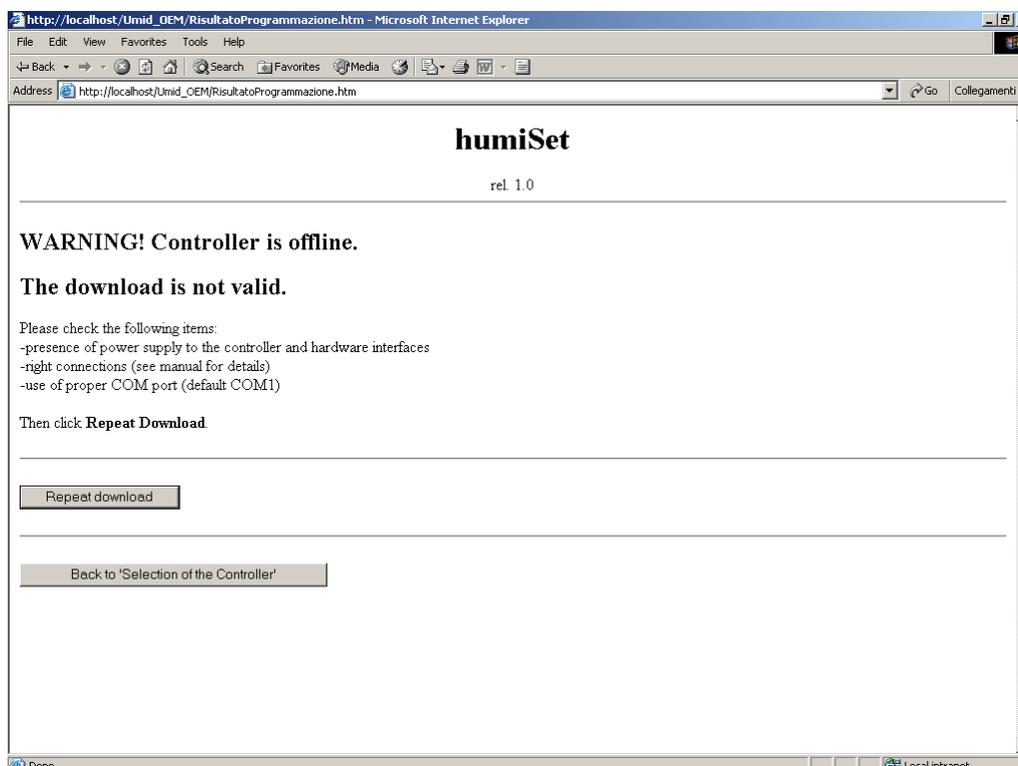

Figure 42
- If, after completion of the programming, the page below is displayed, check connections and repeat the programming (Figure 42):